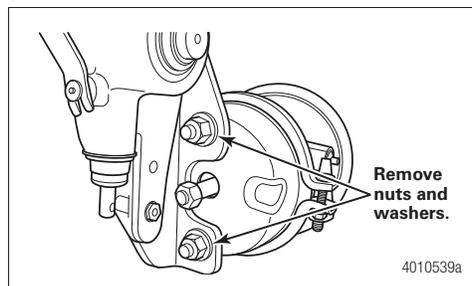

Figure 19
6. Use the correct wrench to remove the air chamber nuts and washers. Figure 19.